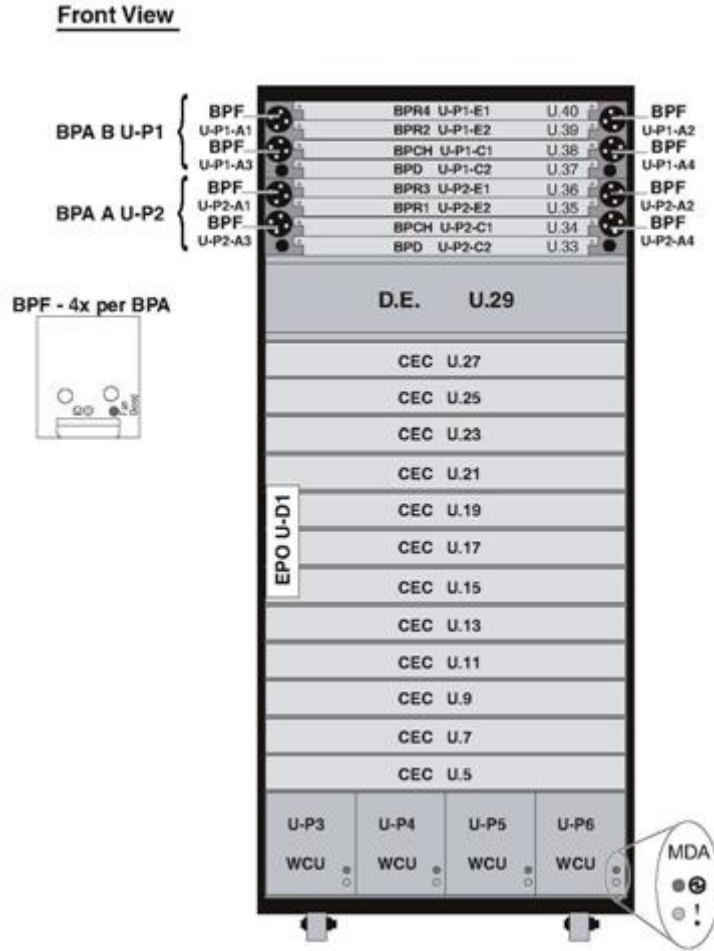

Figure 4 CEC Locations (front of rack)
- If 00aa00 “Redundant BPE/BPA” status was returned from Step 7 or 8, then continue with Step 13. If 00aa03 “Redundant BPE/BPA if CECs in Degraded Low Power Mode” status was returned from Step 7 or 8, then continue here with Step 10. Put **all** CEC Drawers in Low Power Mode by sending the following commands to the BPC FSP for all configured CEC Drawers (reference Figure 4 above). To do this access the **HMC BPC-A ASM SIDE\_A** Service Processor Command Line (Refer to ‘Power775 BPC FSP Command Line Procedure’ in Appendix A of this PDF and ensure **ASM SIDE\_A** is active per Step 12 of Appendix A) and enter one of the commands below for each CEC Drawer installed (**IMPORTANT: DOUBLE-CHECK THE COMMAND IS TYPED IN EXACTLY CORRECT BEFORE PRESSING ENTER BECAUSE EVEN A SINGLE INCORRECT CHARACTER COULD RESULT IN SEVERE UNINTENDED SYSTEM DISRUPTION!!**):